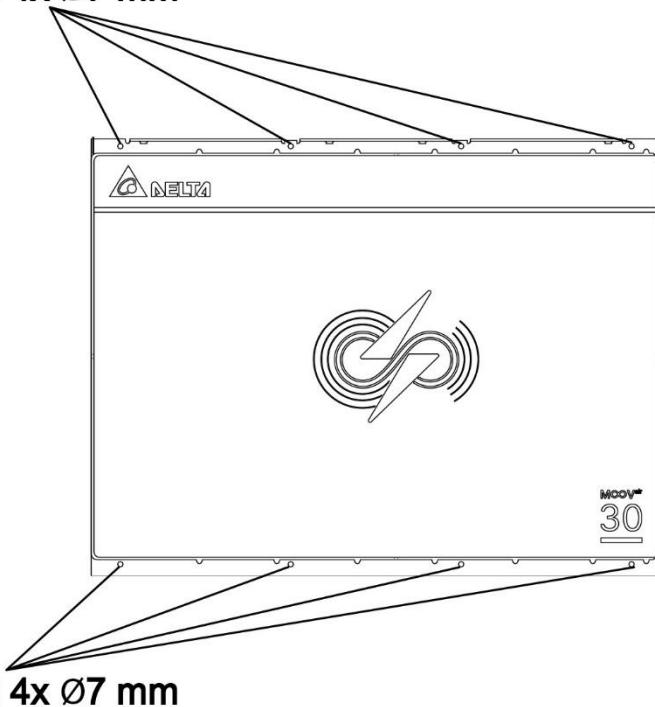

Figure. 28 WSU Mounting Holes
2. Make sure to disconnect all the cable connections to WSU (1). Refer 4.3.4.2 WSU Cable Connections.
3. Remove the screws (3) and remove the edge cover (2) from the WSU (1).
4. There are 8 mounting holes ( $\varnothing$  7 mm), four at the top edge and four at the bottom edge of the WSU (1). See Figure. 28.
5. Install the WSU (1) to the vehicle with 8xM6 stainless steel screws (4) (strength class  $\geq$  8.8)
7. Install the edge cover (2) with screws (3), torque 0.6 Nm/0.84 lb-ft.